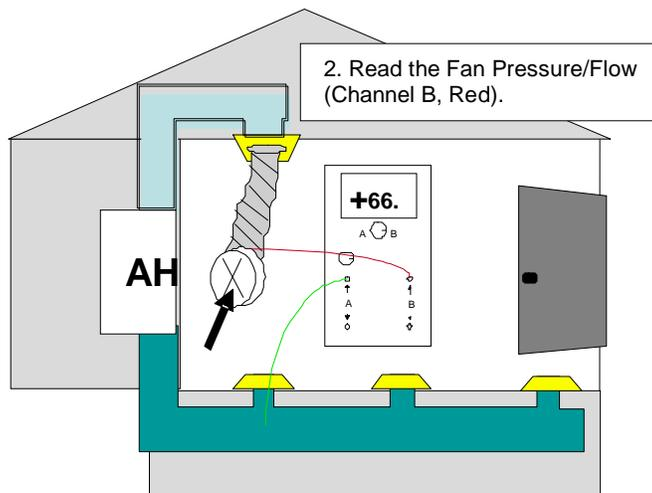

Figure 2: Determining duct leakage
2. Determine the duct leakage (with simple manometers, the fan pressure (Pa) is converted to CFM₂₅ using a flow table. Many digital manometers sold with duct testing equipment can automatically perform this conversion, and display CFM₂₅ directly. Consult your duct testing equipment manual (Figure 2).